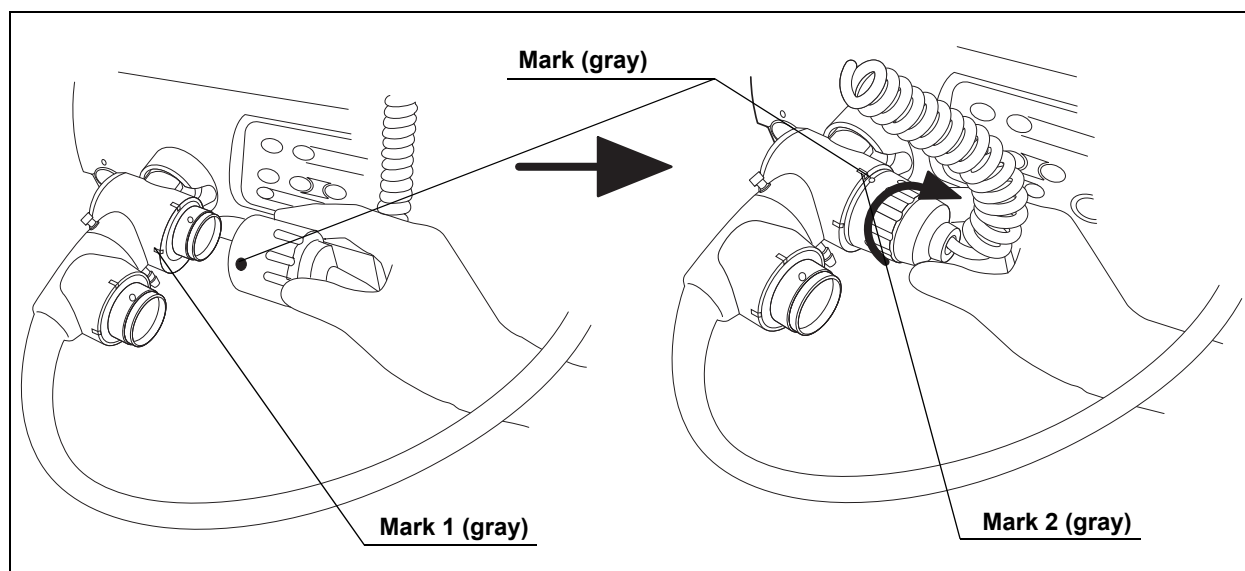

Figure 3.17
8. Align the mark on the videoscope cable with mark 1 on the endoscope connector and push it in until it stops (see Figure 3.17).
9. Turn the connector of the videoscope cable towards mark 2 until it stops (see Figure 3.17).